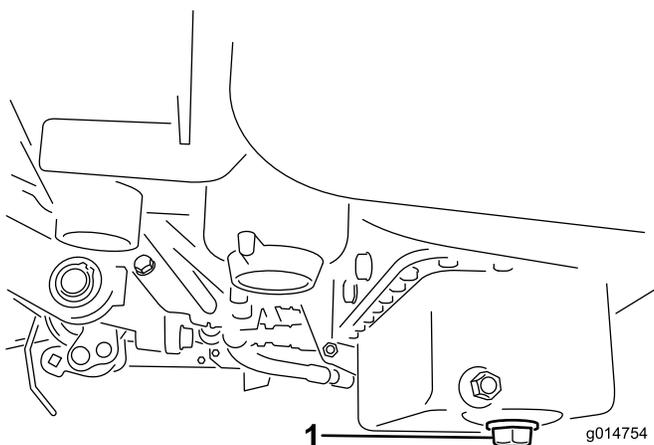

Figure 45
- Remove the drain plug and let oil flow into a drain pan. When the oil stops, install the drain plug (Figure 45).